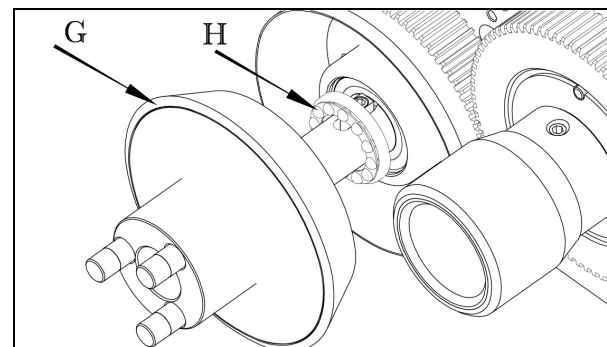

Fig 4
4. In Fig 4, remove the cork clutch (G) and bearing (H).